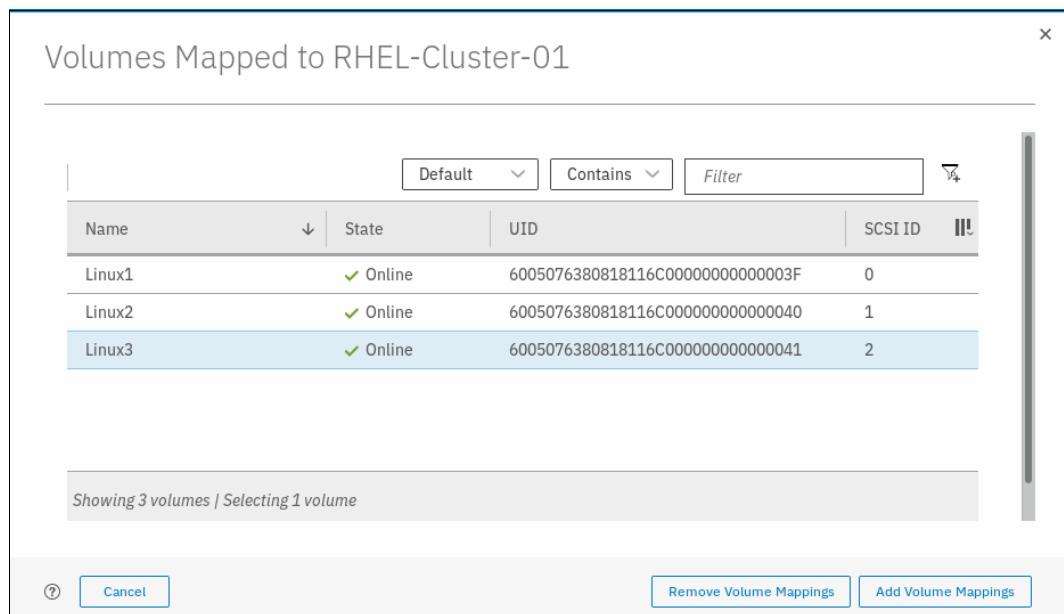

Figure 5-93 Selecting the volume to be unmapped
4. Select the wanted volume to be unmapped, as shown in Figure 5-93.